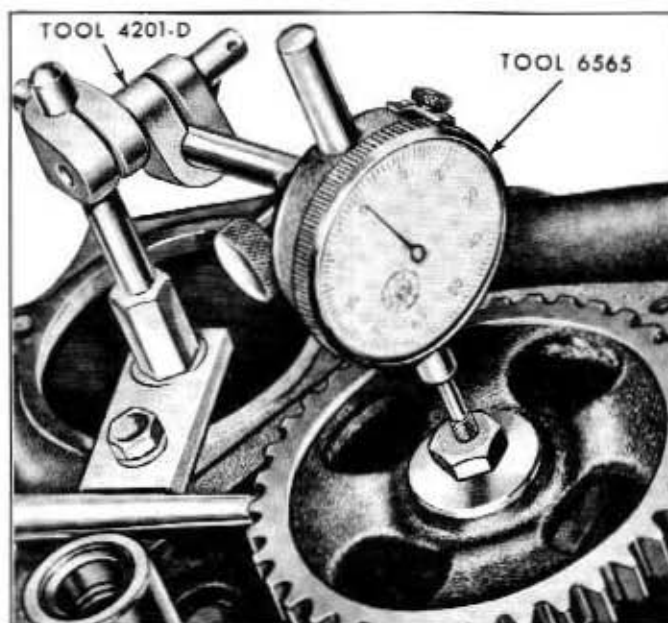

Fig. 6A-23—Checking Camshaft End Play—(60C-5639)
23. Push the camshaft toward the rear of the engine. Install a dial indicator so that the indicator point is on the camshaft sprocket cap screw. See figure 6A-23.